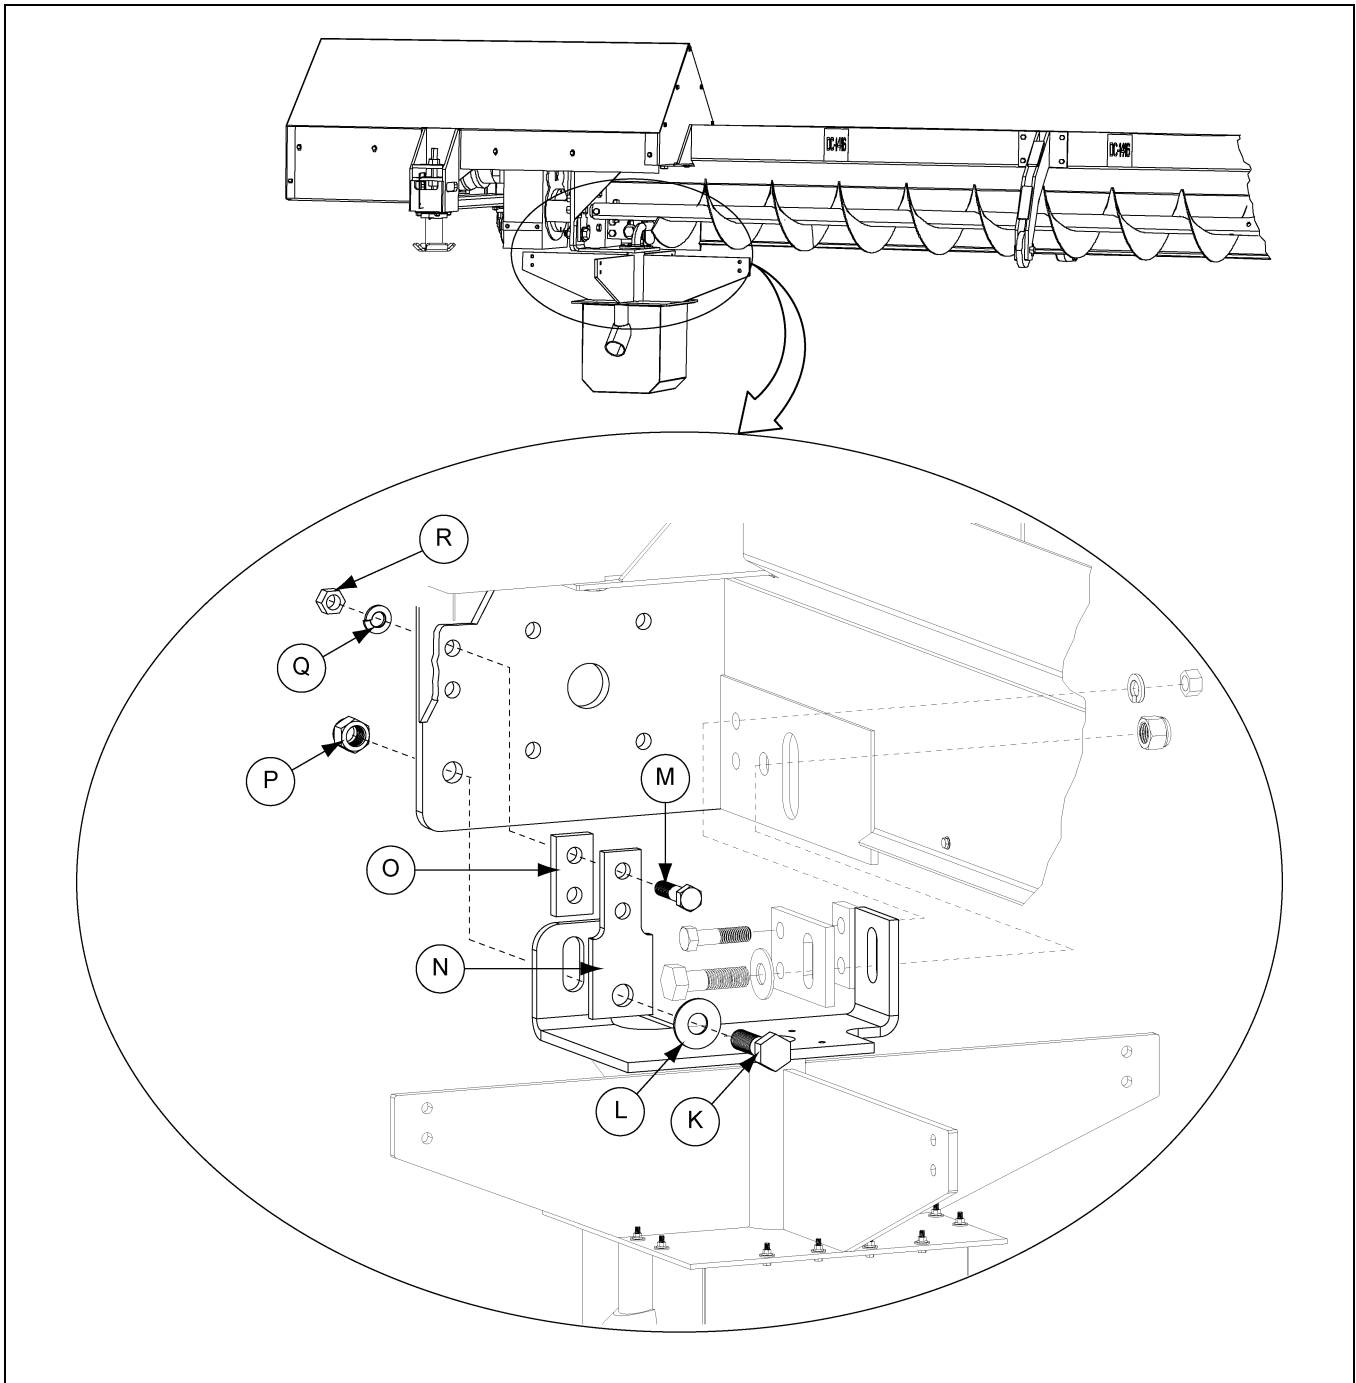

Figure 4M
2. Install hex bolts (K and M), flat washer (L), bracket (N), spacer (O), lock washer (Q), lock nut (P) and hex nut (R). (See Figure 4M.)